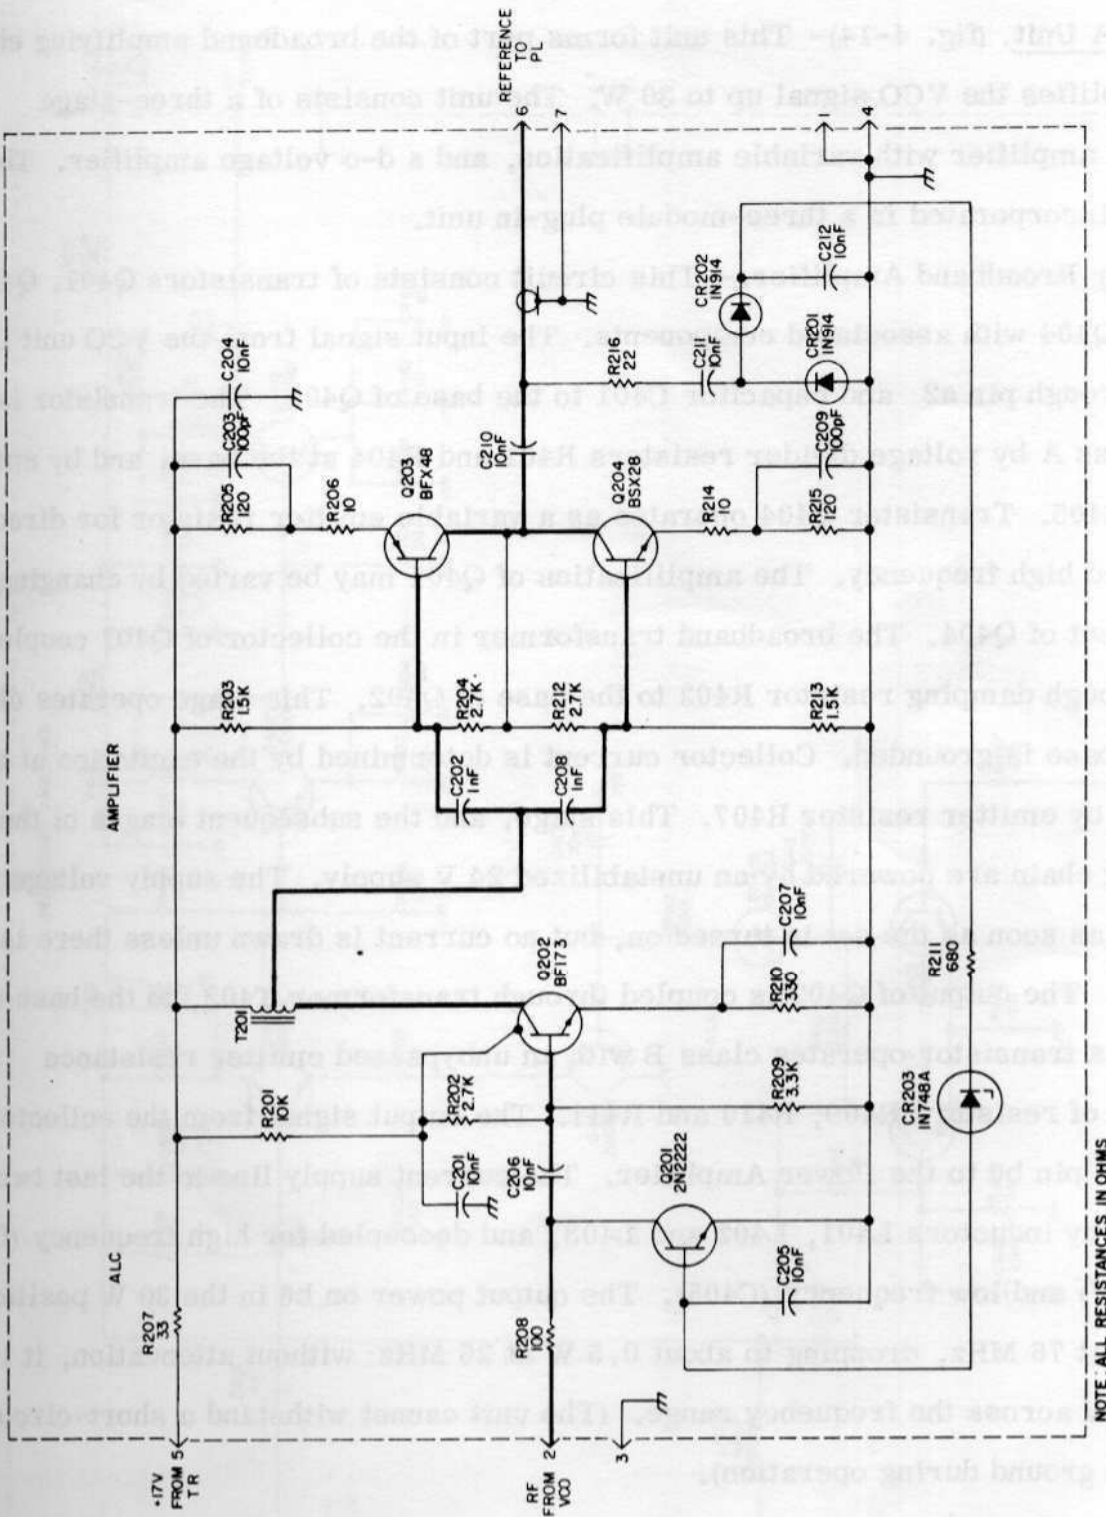

Figure 4-13. Isolation Amplifier (IA) Unit A200, Schematic Diagram
(4) D-c Amplifier.- The circuit consists of transistor Q351 with associated components. It supplies the direct current that varies the self-induction of the secondary winding of T351. The self-induction is maximum with no direct current and drops evenly as current increases up to 60 mA. The control voltage on pin a4 is coupled through zener diode CR354 (3.9 V) to the base of Q351. When the control voltage exceeds about 4.5 V, Q351 begins to draw collector current. This current is determined by the control voltage on the base and by emitter resistor R359; it can increase up to 60 mA with 10 V at a4. All capacitors provide decoupling for high frequencies.
g. IA unit. (fig. 4-13)- This unit forms a part of the phase locking system. It contains a two-stage amplifier with ALC circuit and is incorporated in a single module plug-in unit.
(1) Amplifier.- The circuit consists of transistors Q202, Q203 and Q204 with associated components. The input stage operates as class A grounded emitter amplifier. Autotransformer T201 in the collector drives the output stage which includes Q203 and Q204. The output is a complementary-symmetrical transformerless circuit that operates class AB and produces an undistorted output signal of about 2 V at pin a6. The signal is applied to the phase detectors in the PL unit. The IA unit prevents signals from the phase detectors from reaching the VCO output through this connection, as they would then be amplified in the broadband amplifying chain (BA and PA), and would cancel the spurious-eliminating effect of the phase locking system.
(2) ALC circuit.- The circuit consists of transistor Q201 with associated components. The output voltage of the amplifier is rectified in a voltage doubler consisting of diodes CR201 and CR202. The rectified d-c voltage is supplied through zener diode CR203 and resistor R211 to the base of Q201. When the rectified voltage exceeds the zener voltage (3.9 V), Q201 conducts, and a voltage divider is formed by